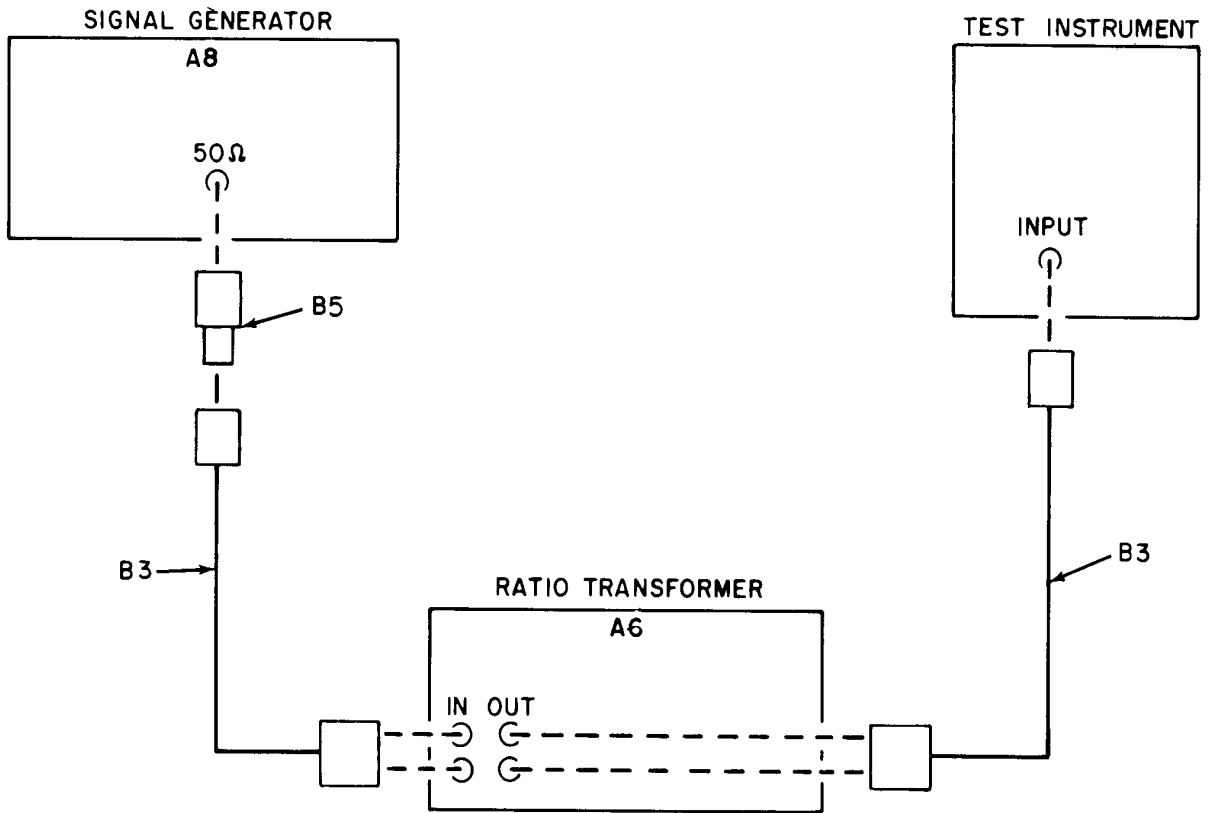

Figure 3. Range accuracy - equipment setup.
- (1) Set **EXPAND** switch to **NORM** and **BANDWIDTH** control fully clockwise.
- (2) Connect equipment as shown in figure 3.